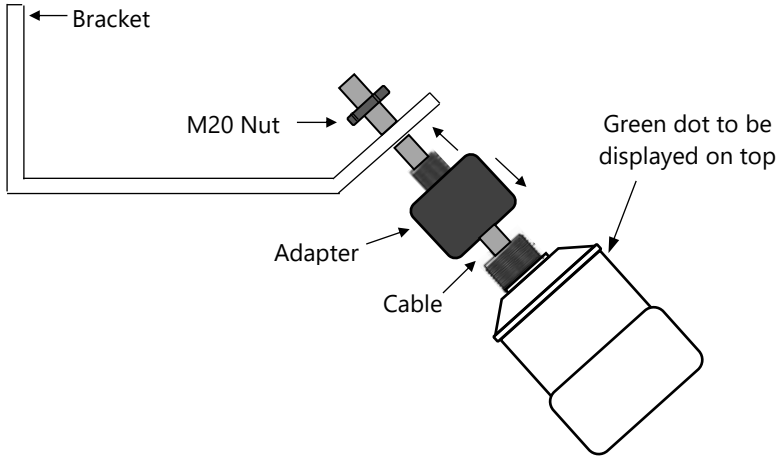

Fig.3
Mounting the sensor to the 45° angled bracket is done via an adapter and M20 nut, as shown in Fig.3:
- Ensure that the green dot has been positioned in the direction of the flow of the vessel, this will obtain optimum velocity readings that are available. Please refer to '**Fig.3**' in '**Chapter 2-Installing the sensor**' section on how to do this.